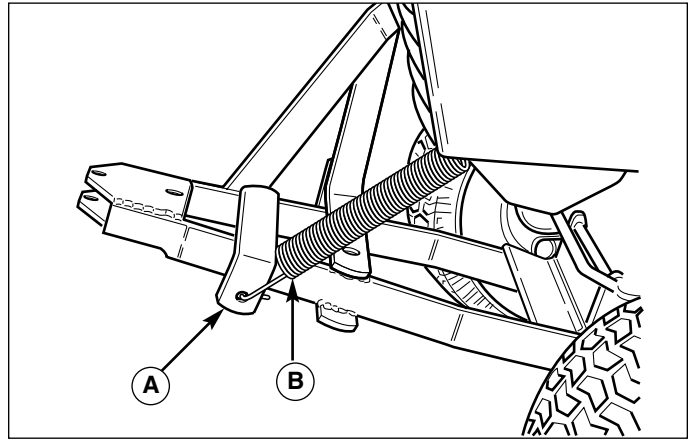

Figure 17. Lift Assist Spring
2. Raise the push bar and attach the lift assist spring (B, Figure 17) to the assist spring bracket (A).